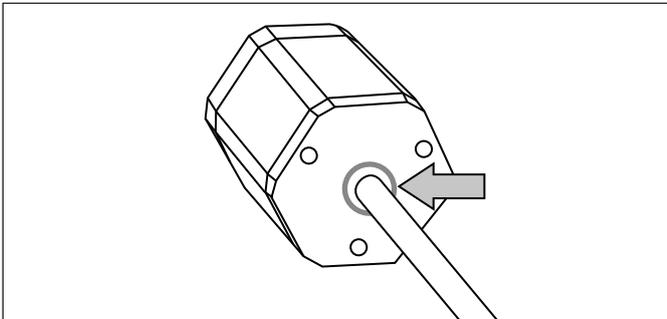

Fig. 23: Correct position of the O-ring in the groove of the sensor electronics housing
4. Ensure that the O-ring seal (part no. 562 003) is correctly inserted in the groove on the sensor electronics housing before inserting the base unit into the support tube and attaching the sensor electronics (Fig. 23).
3. Ensure that the O-ring seal (part no. 562 003) is correctly inserted in the groove on the sensor electronics before inserting the base unit into the support tube or the HFP profile and attaching the sensor electronics (Fig. 23).
- Ensure that the O-ring seal (part no. 562 003) is correctly inserted in the groove on the sensor electronics housing before inserting the base unit into the support tube and attaching the sensor electronics (Fig. 23).